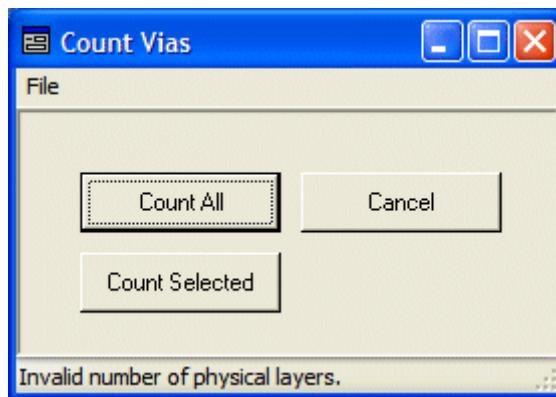

Figure 4-29. With file properties set to Read-Only there is no Stop button.
- 17) Use the **File > Open Script Form** command in Expedition PCB to locate and open the *ViaCountForm.efm* file you created in the previous topic (Figure 4-29).